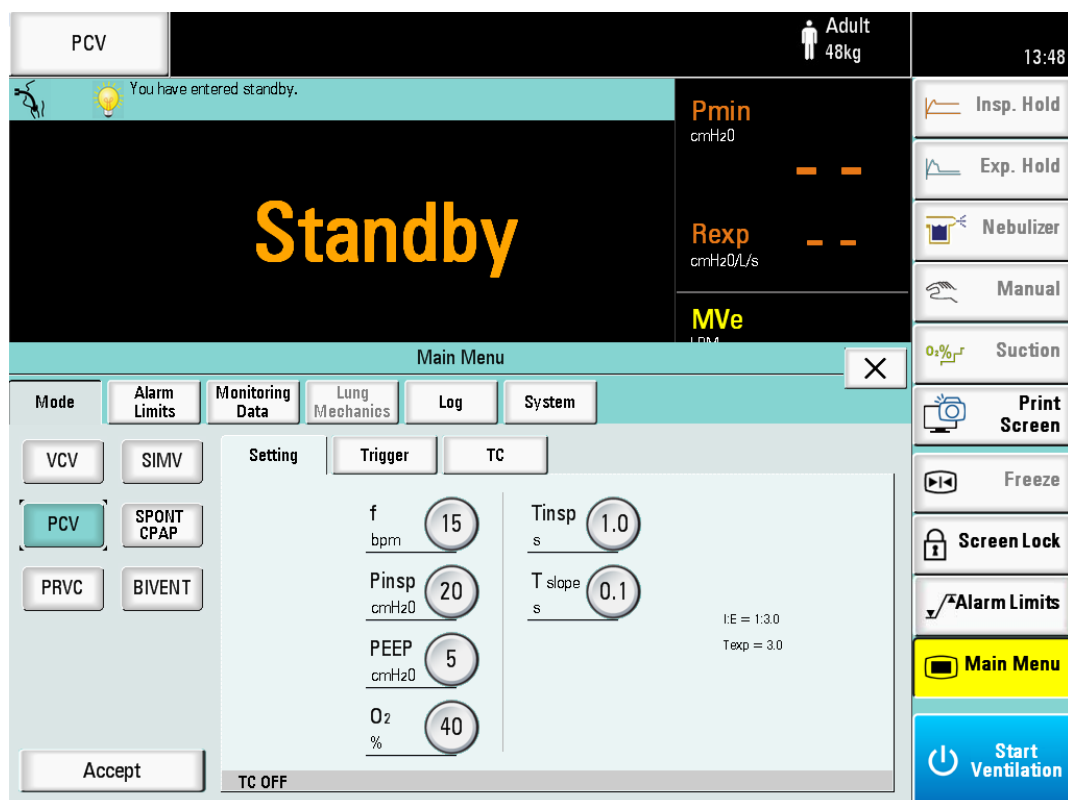

Figure 6-19
Step 1: Click  in the shortcut keys area to enter the Main Menu, then click  to enter mode Setup interface, as shown in Figure 6-19.